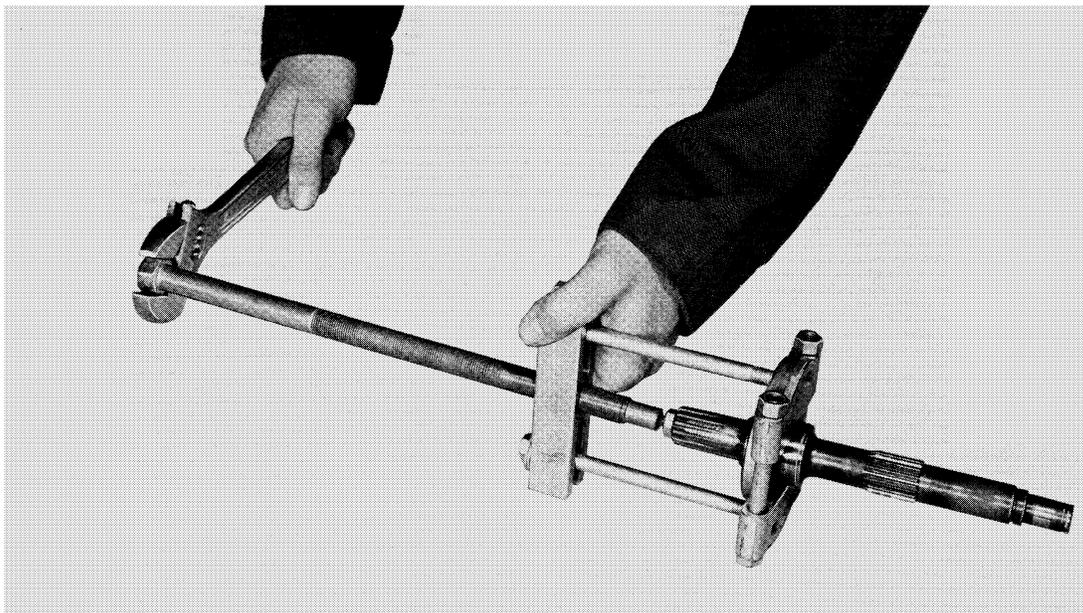

FIGURE 29
19. Remove the bearing with a bearing puller, (or arbor press, if available). **ANY OTHER METHOD OF BEARING REMOVAL MAY DAMAGE THE BEARING.** See Figure 29.